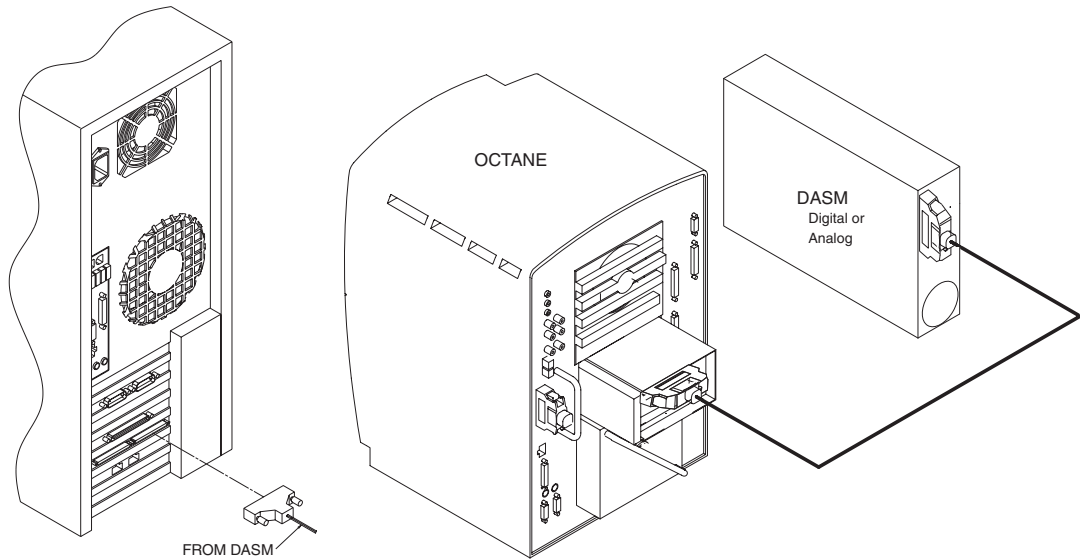

Figure 2-12 SCSI Cable Connection for DASM (HP xw8000 at left, Octane at right)
6.) Attach the free end of the SCSI cable to the rear of the Host Computer (see Figure 2-12).